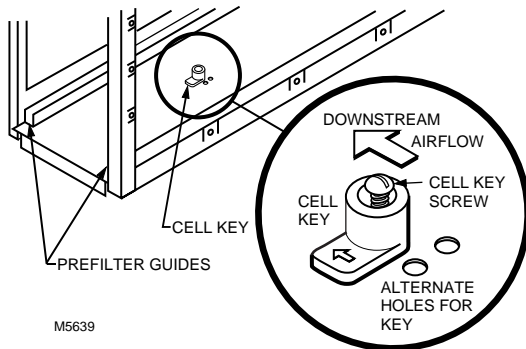

Fig. 15. Position of cell key determines orientation of cell (arrow on key must point downstream).
2. Remove the screw holding the cell key in place. See Fig. 15.